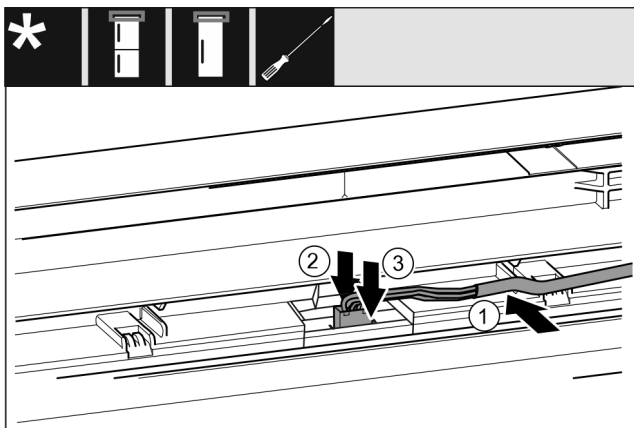

Fig. 45 Fridge/freezer combinations / freezers / refrigerators*
- ▶ Insert the cable Fig. 45 (1) into the guide in the top door.*
- ▶ Push the latching tab Fig. 45 (2) backwards.*
- ▶ Engage the plug Fig. 45 (3).*